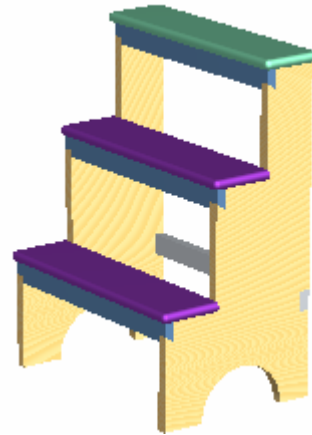

Figure 29. Varnished Wood added to sides.
58. Select wood, varnished and drag into the design. Drag over one of the sides until it highlights then release the mouse button. Press the up-date button to see the result. It should look like figure 29.